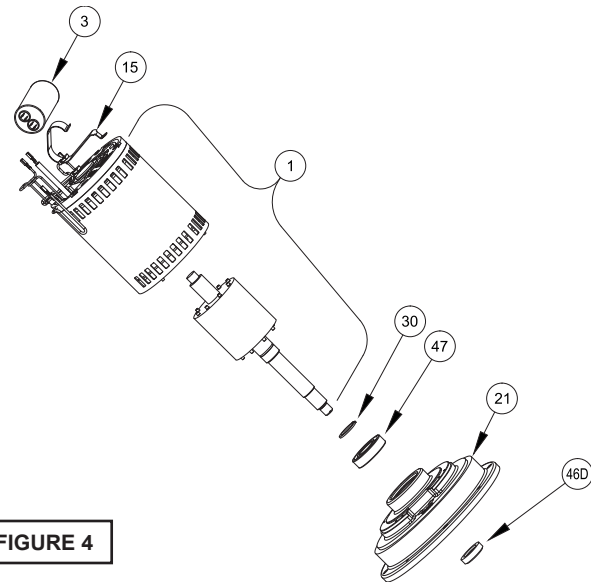

FIGURE 4
Vertically lift motor housing (2) from bearing bracket (21) by lifting handle (7). Inspect square ring (42) for damage or cuts. Remove the motor bolts and lift motor stator from bearing bracket (21). Disconnect capacitor leads from capacitor (3, 1 phase units). Examine bearing (47) and replace if required. If replacement is required, remove bearing (47) from motor shaft using a wheel puller or arbor press, see Figure 4.